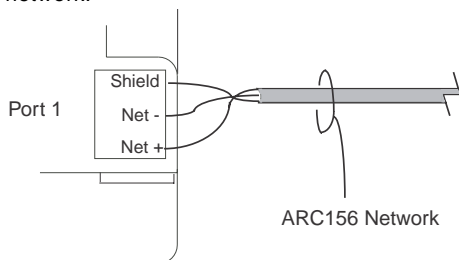

Figure 10. ARCnet Network Connection
2. Wire ARCnet network input cable to BACnet portal port 1 (see Figure 10).